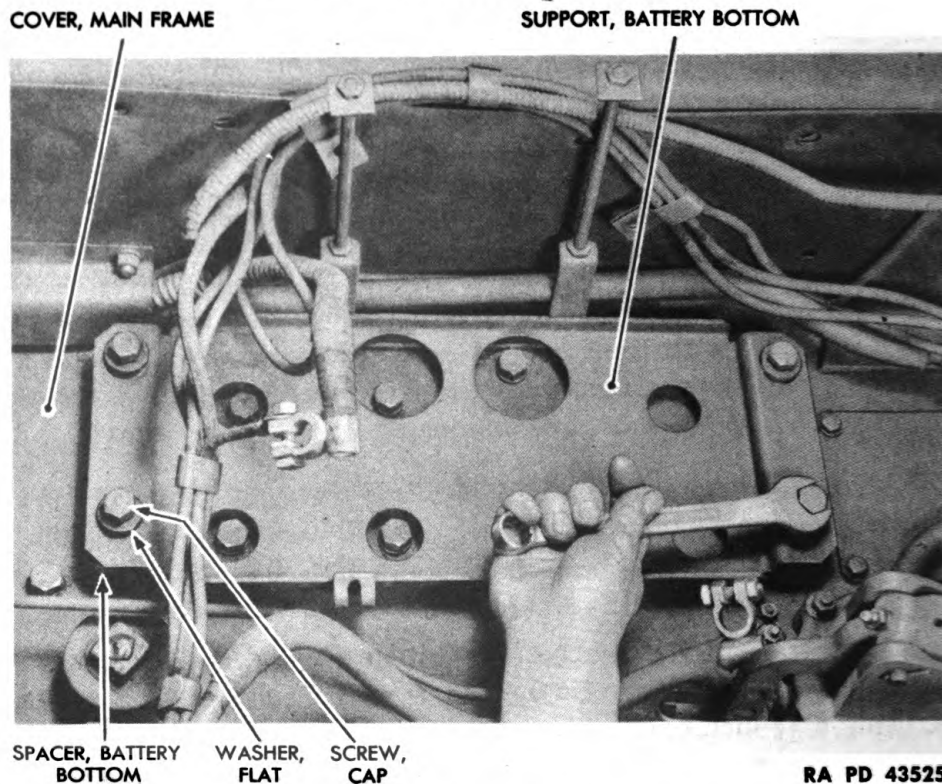

Figure 197 – Battery Bottom Support Installation
(14) INSTALL BATTERIES AND BATTERY BOTTOM SUPPORTS (fig. 197).